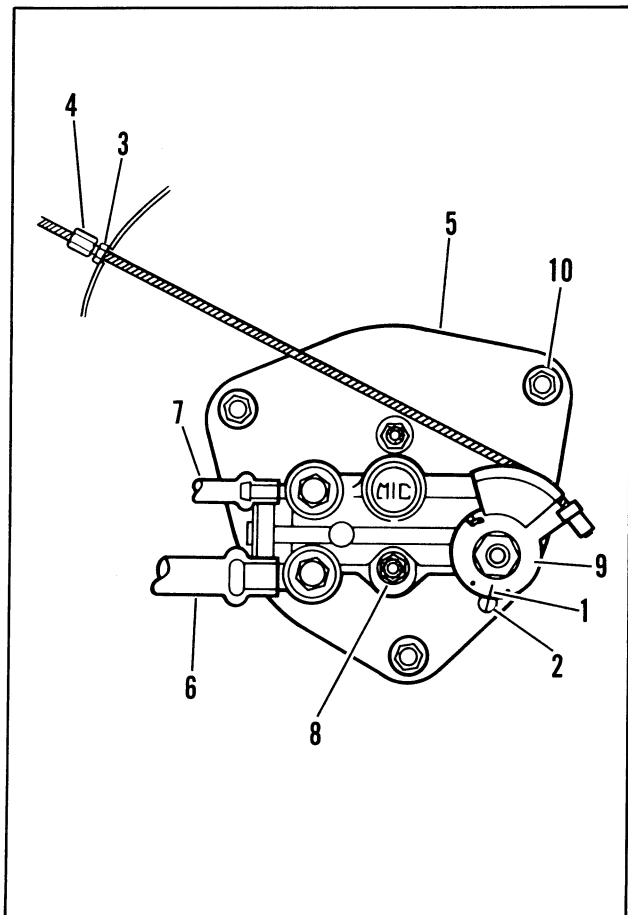

Figure 79 – Oil Injection Pump
34. OIL INJECTION PUMP (Figure 79)